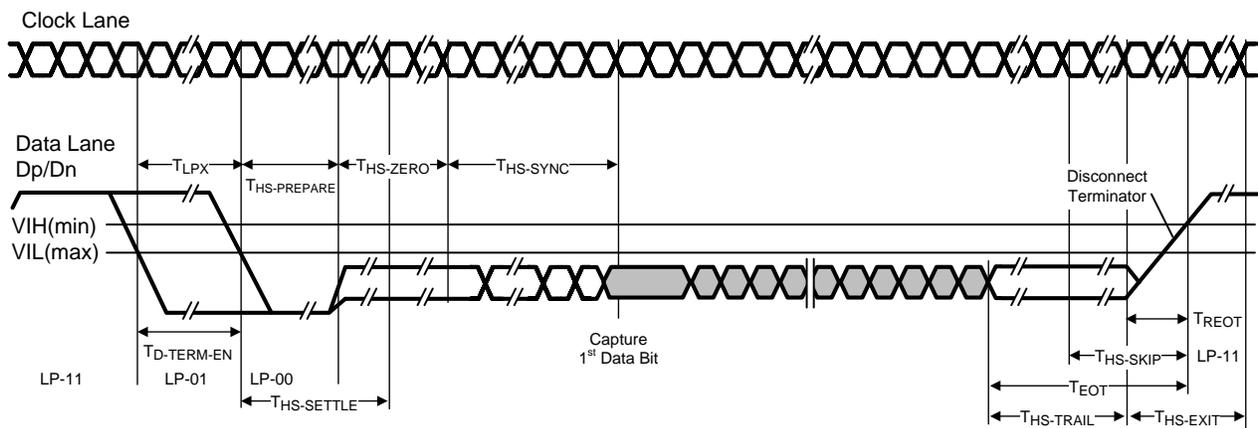
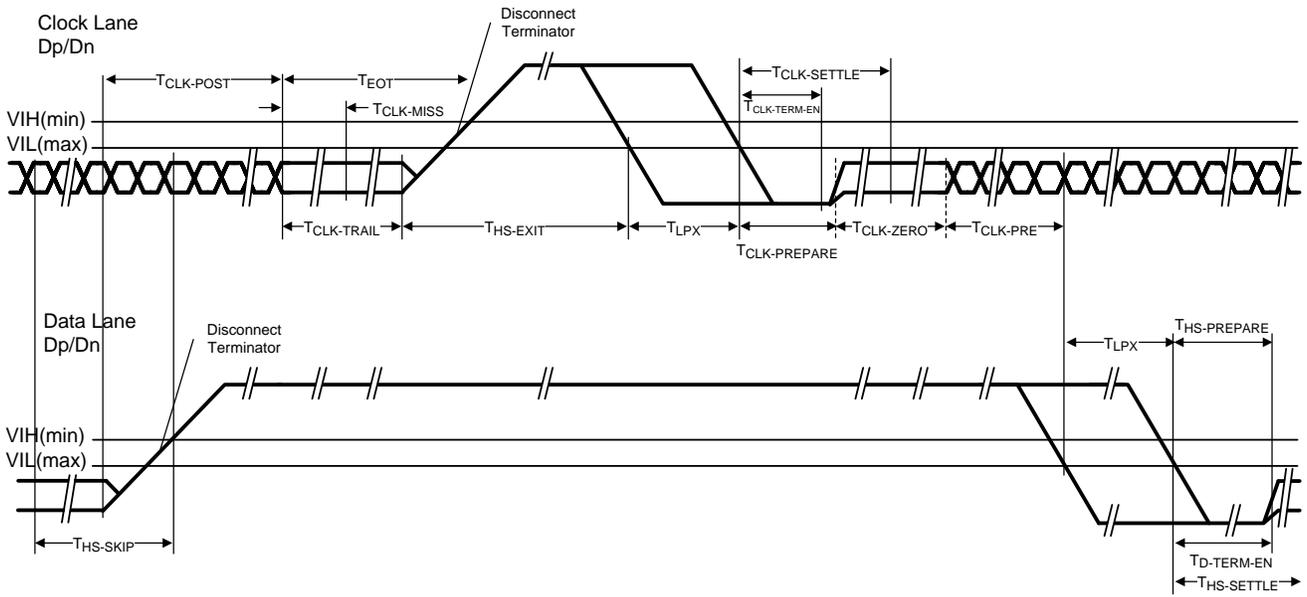

Figure 4. High Speed Data Transmission Burst
Figure 5. Switching the Clock Lane between Clock Transmission and Low-Power Mode
CSI-2 Timing Specifications (DATA0±, DATA1±, CLK±) (2) ( <a href="#">Figure 4</a>, <a href="#">Figure 5</a>) Section 5.9 of MIPI D-PHY Specification